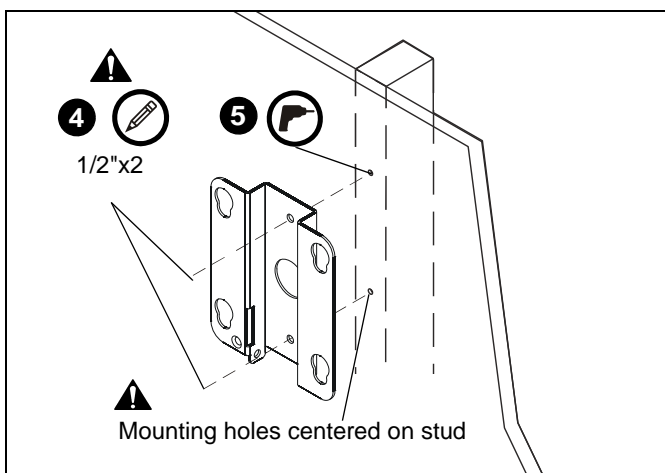

Figure 9
3. Align mounting holes in mount with stud making sure mounting holes are centered on stud. (See Figure 9)
4. Mark location of two mounting holes on wall using the wall plate as a template. Mark holes where the top and bottom holes of the bracket will be connected. (See Figure 9)
5. Drill two 1/2" holes. (See Figure 9)